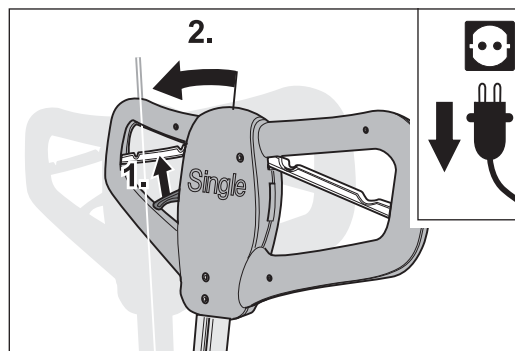

Fig. 13 Pull the adjusting lever to release the lock and push the guide tube up until it reaches the mechanical stop.
- 3 Pull the adjusting lever on the handle towards you to release the lock of the guide tube, and push the guide tube into and past the vertical position until it reaches the mechanical stop (Fig. 13).